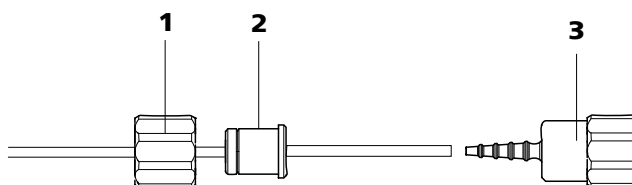

Figure 30 Install pump tubing connection without filter
- **Case B:** a 6.2744.160 pump tubing connection **without filter** (see figure 30, page 53).